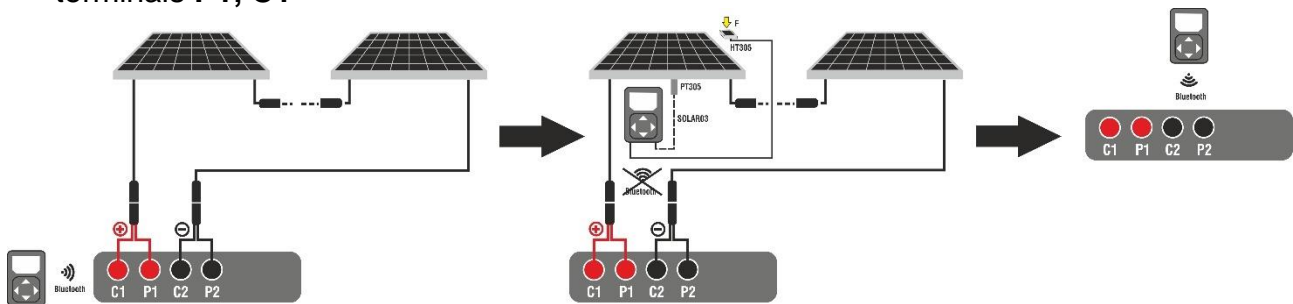
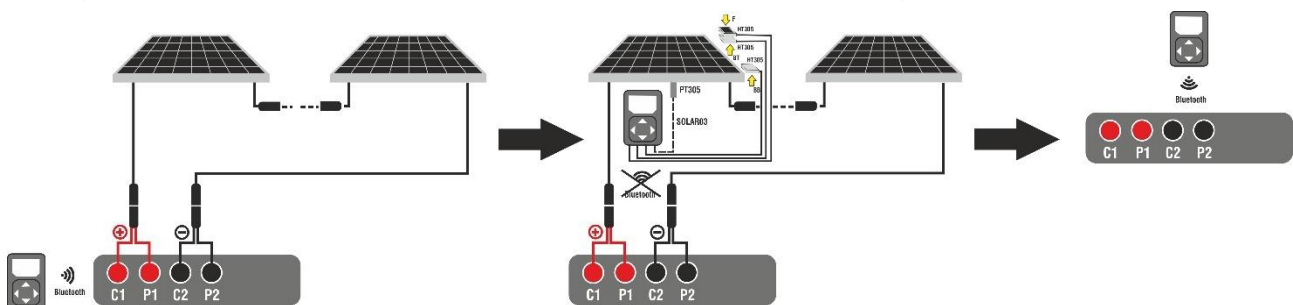

Fig. 70: Connection with SOLAR03 in synchronous recording on Monofacial modules
Fig. 71: Connection with SOLAR03 in synchronous recording on Bifacial modules
2. Connect the instrument to the module/string being tested as shown in Fig. 70 (Monofacial modules) or Fig. 71 (Bifacial modules). In detail, connect the negative pole output of the module/string to terminals **P2, C2** and the positive pole output of the module/string to terminals **P1, C1**
3. Move the SOLAR03 remote unit close to the instrument as shown in Fig. 70 or Fig. 71 – left side part
8. **Move the remote unit close to the modules** and connect the irradiance and temperature probes (if necessary) as shown in Fig. 70 or Fig. 71 – middle side part. In particular:
- **In case of Bifacial modules**→, position the **three HT305 reference cells** on the front surface of module (**F**), on the top back section(**BT=BackTop**) and on the bottom back section (**BB=BackBottom**) of the module. Connect the front reference cell (F) to input “**INP1**”, BT reference cell to input “**INP2**”, BB reference cell to input “**INP3**” and **possibly** the temperature probe **PT305** to input “**INP4**” of the remote unit. In accordance with the IEC/EN60904-1-2 standard, the instrument calculates the equivalent front-side Irradiance (**Irreq**) value, which corresponds to the Irradiance on the front surface only, which produces the same effects as the Irradiance measured on both sides, considering the **bifaciality factor** (φ) of the module according to the following relationship:
18. **At the end of the test session**, disconnect the SOLAR03 remote unit, place it close to the instrument (see Fig. 70 or Fig. 71 – right side part) and check that it automatically reconnects to the instrument